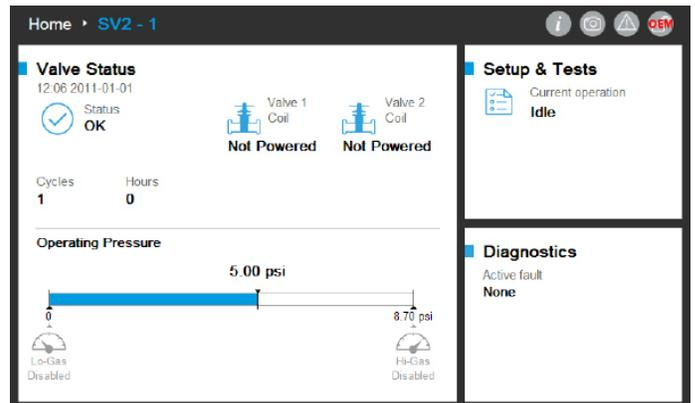

Fig. 5. Session is established. User is logged as OEM.
Should the Installer and/or OEM main access level passwords be lost, password reset is possible, if the reset mechanisms were enabled by the OEM. Refer to Fig. 5. The reset mechanism will vary between the Installer and OEM levels. Note that cycling of the valve or user interface power will not defeat this methodology.
By default, the password reset feature for both the Installer and the OEM is disabled and has to be enabled upon initial configuration of every device by the OEM or original owner as indicated in Fig. 5.
- **The OEM can choose to enable or disable the OEM password reset function. Refer to Fig. 5.**